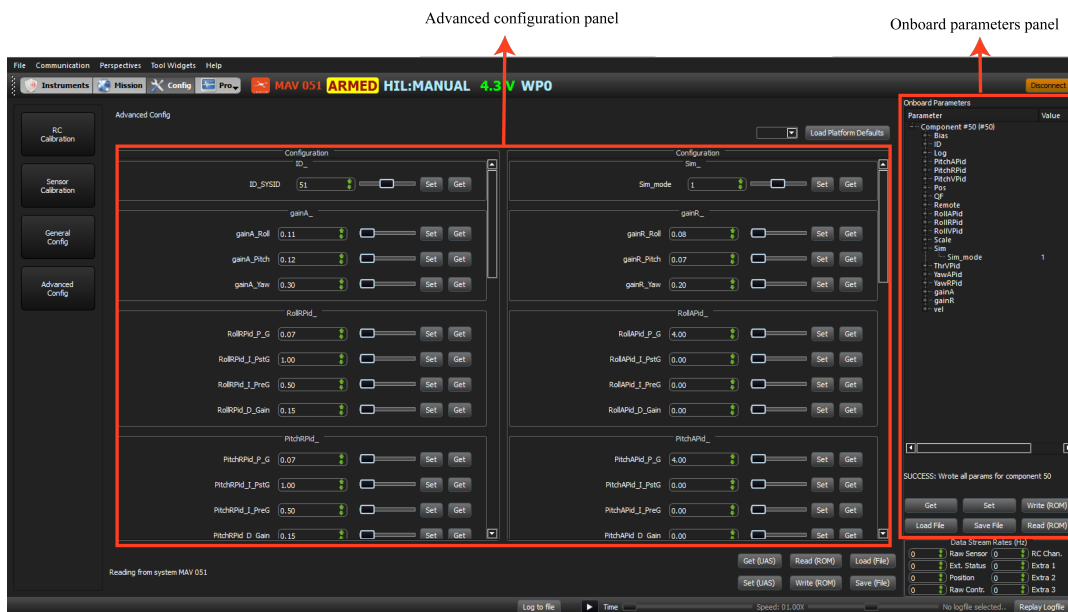

Figure 4.2: The structure of the cascade attitude controllers
12. Disarm the quadrotor. Now you will change the parameters of the pitch rate and angle controller and observe the effects of these changes. Open Config tab. You will see two panels, Advanced configuration panel and Onboard parameters panel (Figure 4.2). You can change the value of the parameters on both panels. Change *RollRPID_P_G* to 0.05 and *RollAPID_P_G* to 3.0. Press button Set to write the send the modified values to the quadrotor controller. Arm the quadrotor and repeat the procedure from exercise 4.1 to test the response of the pitch attitude and rate controllers.